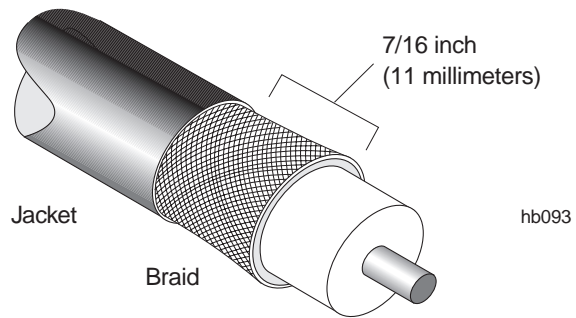

Figure C-5 Braid, flared and trimmed
8. Flare the braid *slightly* and trim to 7/16 inch (11 millimeters), as shown in figure C-5.
- b. Re-trim the braid to 7/16 inches (6 millimeters), as shown in figure C-5.